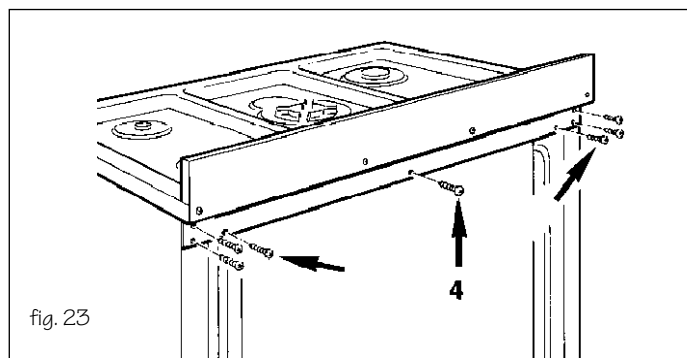

fig. 23
- 3) unscrew the 7 screws on the back of the cooker (Fig. 23). Having completed the above, remove the hob.